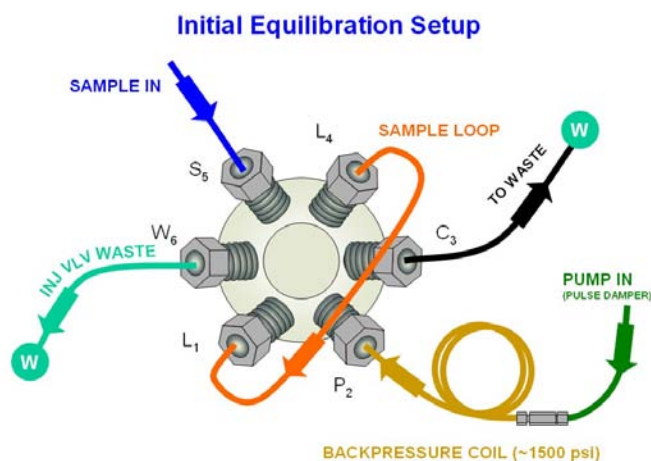

Figure 3. Plumbing diagram, initial equilibration step
9. Connect the pump line to injection valve port 2 (P). Bypass the column, suppressor, CR-TC, and CRD (if any are installed) from the system leaving the gradient mixer in-line; use the backpressure coil to connect the pump outlet directly to port 2 on the injection valve. This is illustrated in Figure 3 below. If an Eluent Generator Cartridge is in-line with the IC system, bypass all plumbing to the EGC and connect the pump directly to the injection valve.
10. ICS-2000 or ICS-2100: Disconnect the Pulse Damper Out line (0.030" tubing exiting from left and below the detector cell) and connect it directly to the Injection Valve port 2 (P), thus bypassing the eluent generator.